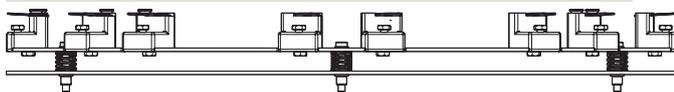

Fig. 58 Adapter
1. Place the adapter (Fig. 58, preassembled at factory) on an assembly stand .